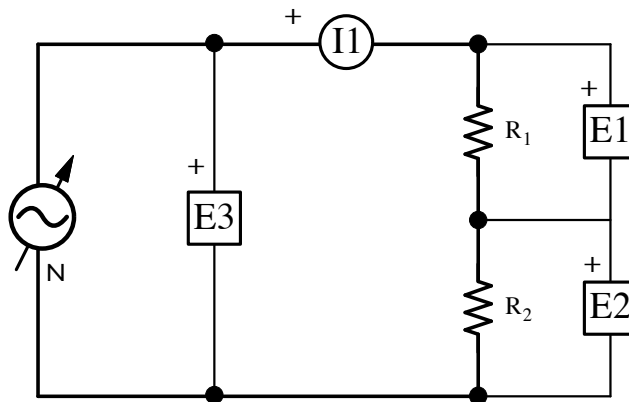

Figure 1.6: Voltage Divider Circuit
21. Add  $E_1$  and  $E_2$  to measure the voltage drop across resistors  $R_1$  and  $R_2$ , as shown in Figure 1.6, and adjust the source voltage to **100 V** with the voltage control knob.